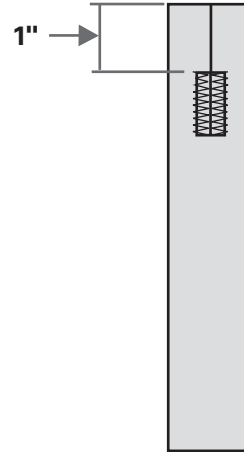

Fig. 16-3
4. Mark and stitch a buttonhole 1 inch (2.5 cm) from the finished end of each tab. **(Fig. 16-3)** Size the buttonholes at least ⅛ inch (3 mm) longer than the button diameter. Follow the machine owner's manual for stitching buttonholes.